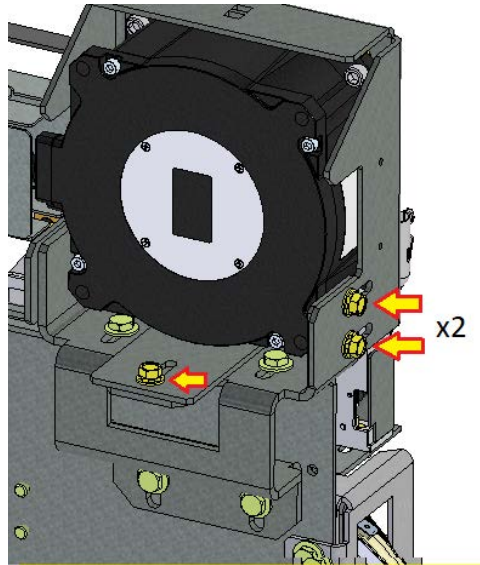

Figure 23: Motor Bolts for Belt Alignment
CAUTION: A misaligned belt can cause the belt to wear prematurely or jump teeth during operation. To adjust the motor assembly, loosen (4) $\frac{1}{4}$ -20 bolts on both sides of the assembly, as well as (1) $\frac{1}{4}$ -20 in the base of the assembly (Figure 23). With all (5) $\frac{1}{4}$ -20 bolts loose, the motor assembly should slide freely in and out. Push the door closed so the clutch is near the motor assembly, and then align the motor pulley with the clutch pivot. Once aligned, tightened all (5) $\frac{1}{4}$ -20 bolts.
Make sure that the motor assembly is tightly secure where mounted. Loosen the tensioner assembly slightly, loosening the (2) $\frac{1}{4}$ -20 bolts on the face, so the tensioner assembly can slide left or right, as displayed in Figure 23. Tighten the tensioner adjustment screw, pushing the tensioner away from the motor assembly to moderately increase tension on the drive belt. Then retighten the (2) $\frac{1}{4}$ -20 bolts on the assembly face. The belt tension should be as such that you can squeeze the upper and lower sides of the belt together using moderate pressure. (**NOTE:** While a loose belt can jump teeth, an overly tightened belt can be noisy.)